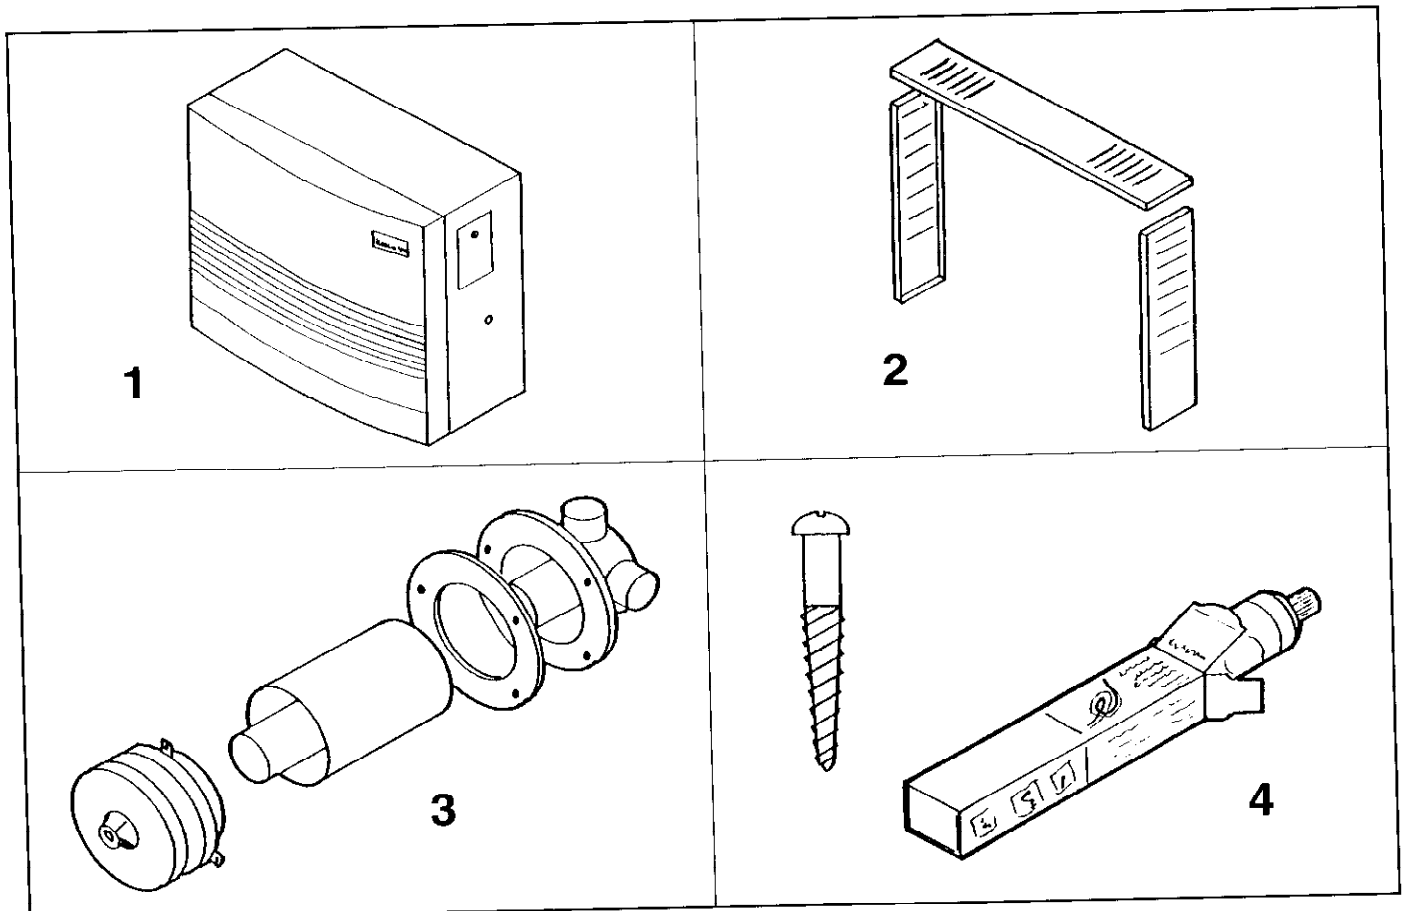
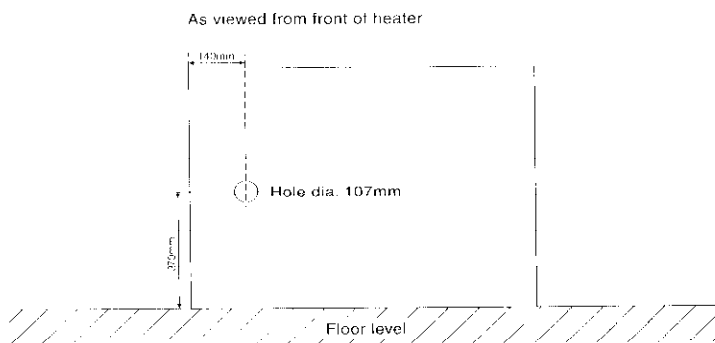

Figure 1
Figure 3
With the standard kit provided (see Fig. 1) the heater must be installed with the centre of the hole through the wall as shown in Fig. 3.
Identify the various components from Fig. 1 and check to ensure that they are complete and undamaged.
- 7.1** Having chosen the location for the flue assembly and the heater, mark the position for the "hole through the wall" (Fig. 3) on the inner wall face.
- 7.22 Place the heater into its correct position relative to the hole through the wall (see Fig. 3).